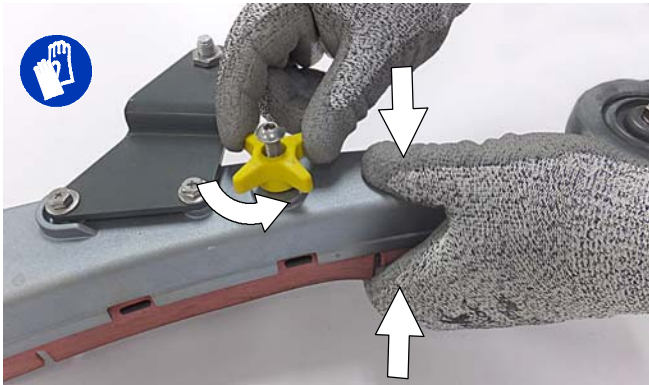

FIG. 146
2. Fully loosen the two outside knobs on squeegee assembly. This will separate the spring loaded blade retainer from squeegee frame (Figure 146). To loosen the knobs quickly, squeeze the blade retainer and squeegee frame together.